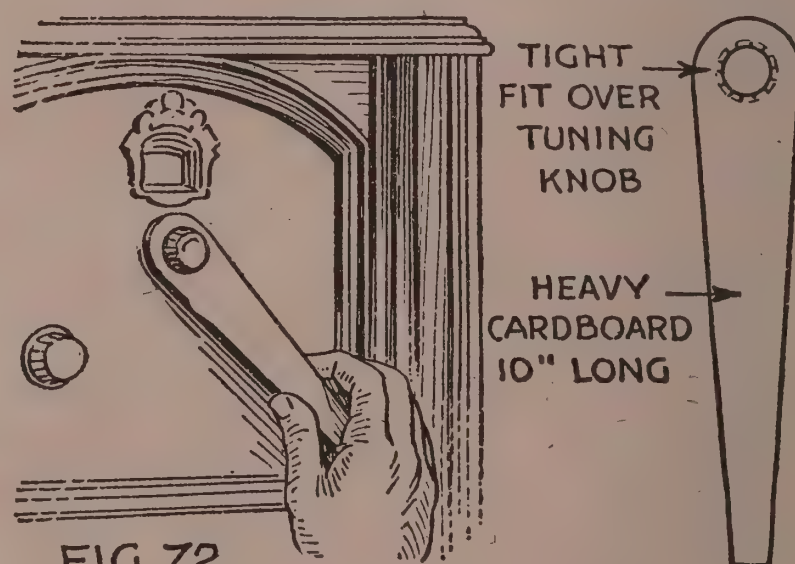

FIG. 72
**Vernier Tuning Lever:** A simple lever cut from cardboard to the shape shown in Fig. 72 can be used as a vernier tuning lever on short- and broadcast-wave receivers lacking high-ratio dials. The hole to take the knob should be cut so that it is slightly smaller than the knob. Slits cut so as to radiate from the center of the hole will serve as a clamp to hold the lever in place on the dial. A vernier lever of this type, made ten inches long, will increase the tuning accuracy of a small dial just about sixteen times.